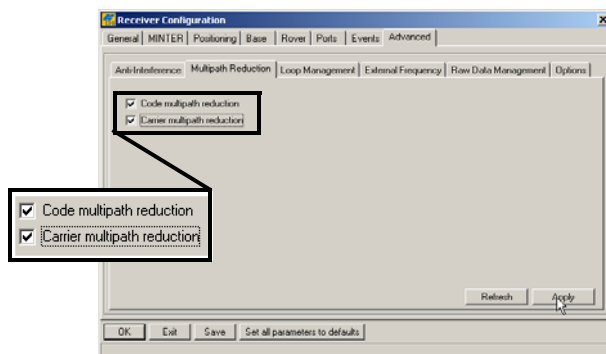

Figure 3-13. Configure Multipath Parameters
12. Click the *Advanced* tab, and then the *Multipath* tab. Set the following parameters, and click **Apply** (Figure 3-13 on page 3-16).